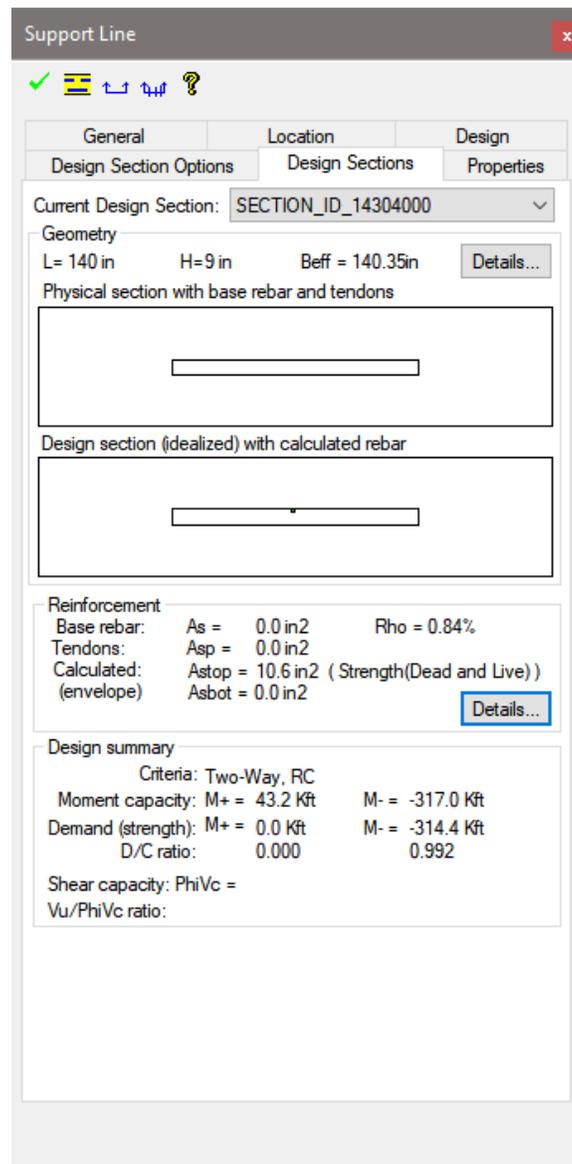

Figure 10-35
- Click on the *Design Sections* tab to display the detailed design section information as shown in **FIGURE 10-35**.